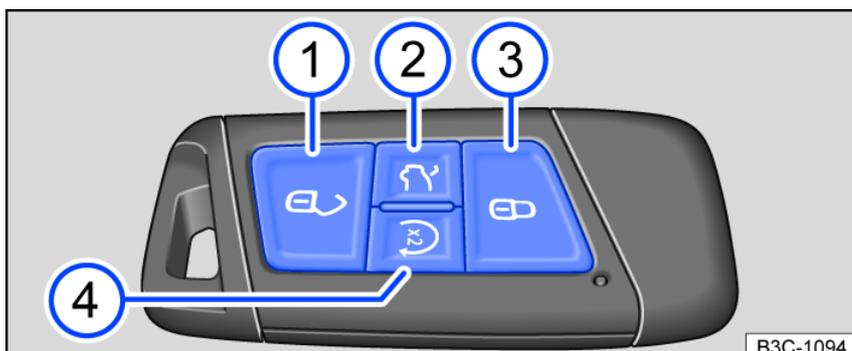

Fig. 115 Vehicle key with remote start relay function
- 1 Press the key  *fig. 115* **once**. All turn signals will flash
- 2 Press the key  *fig. 115* **twice** in a row. All turn signals will flash. During remote start, the parking light turns on.